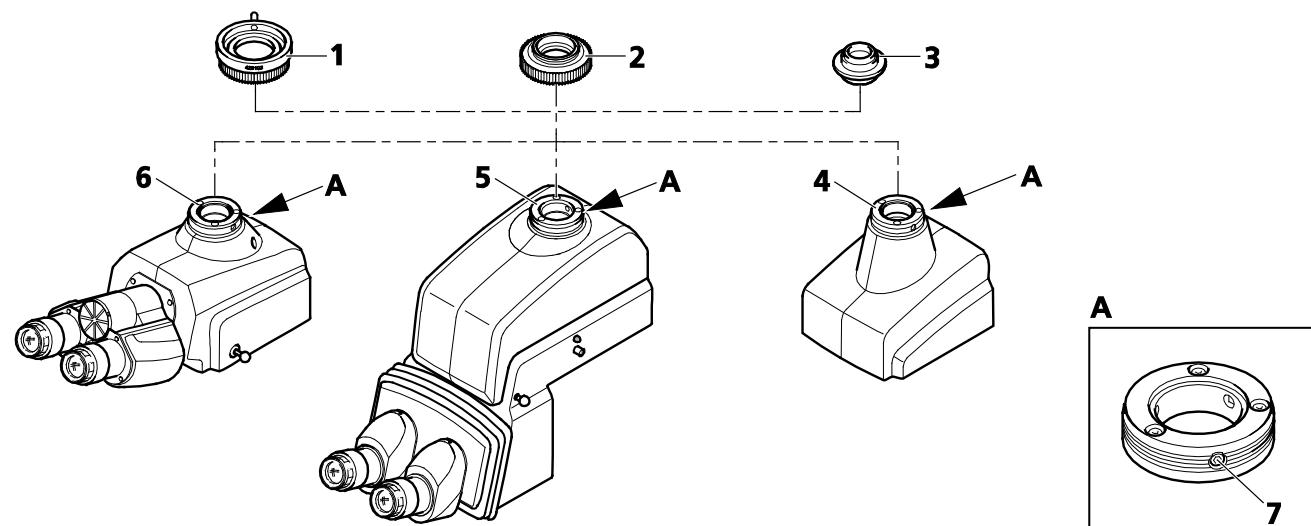

Fig. 24 Using the camera adapter
- Mount the camera adapter 60N (Fig. 24/1; **2**) on the camera.
- Please observe the following: The setscrew (SW 3) (Fig. 24/7) on the camera port should not project into either the external thread or the inner bore.
- Connect the pre-assembled unit to the camera port (Fig. 24/4, **5** or **6**), align and tighten the union nut of the adapter (Fig. 24/**1** or **2**).
- Mount the camera adapter 60 (Fig. 24/3) on the camera.
- Set the pre-assembled unit on the camera port (Fig. 24/**4**, **5** or **6**). Ensure that the setscrew (Fig. 24/7) does not project too far into the inner bore. Retract as necessary.
- Turn the setscrew (SW 3) on the tube (Fig. 24/7) clockwise until the adapter sits securely.